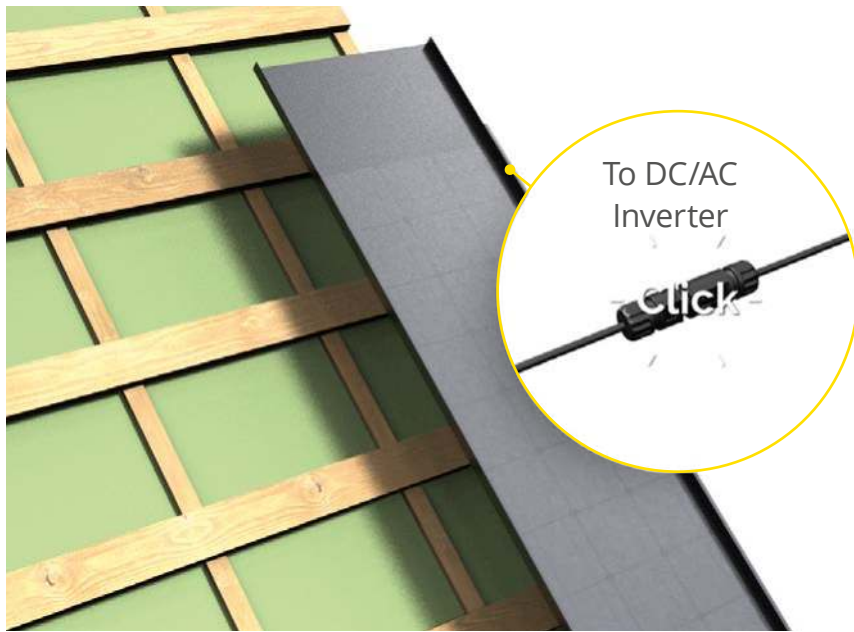

Fig. 6
**3.4 Junction box cables** should be in reachable position before fastening the panels to the battens. The Roofit.solar panels on the roof will form electrically one or several series-connected strings whose ends are connected to the inverter (Fig. 6). **Make sure that the cables are engaged till the very end and 'clicked'.**